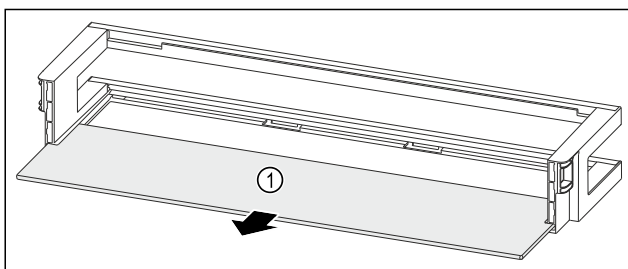

Fig. 163 Door rack with shelf
- ▶ Remove the shelf Fig. 163 (1).